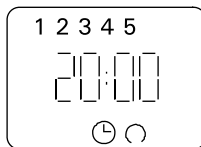

Figure 21.
- using the [Clock] switch return to real time display. (Fig. 21)